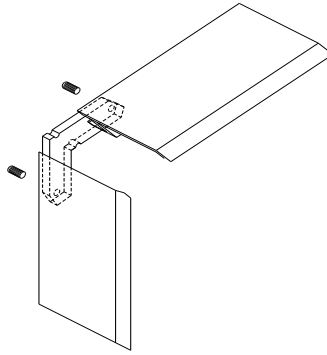

**Figure 4**
- Line up the holes by pushing the sides out and install (smooth heads inside) all the bolts loosely. Line up the edge of the faceplate top and side, tighten the two bolts joining them, and then tighten the side bolts. Tighten the bolts on the other side in the same manner (see Figure 4).